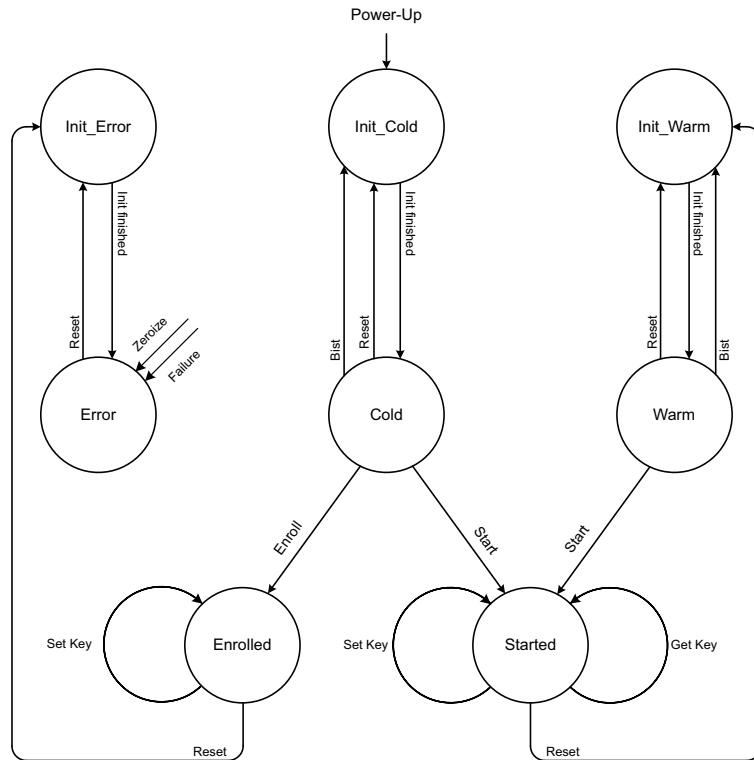

Fig 179. Possible flows, states, and actions
After power-up or reset the PUF controller starts in one of the three Init states, depending on its previous state. See Figure 179. It first initializes itself (indicated by BUSY = 1).
3. After the operation is finished the PUF de-asserts BUSY and asserts SUCCESS, signaling that the Start operation has completed successfully. When ERROR is asserted, instead of SUCCESS, the provided activation code does not match the device. In this case the PUF goes to the Error state. See Figure 179 and Section 48.10.7.13 "Error response".
3. After the operation is finished BUSY is de-asserted and SUCCESS is asserted. It indicates that the Get Key operation has completed successfully. If ERROR is asserted instead of SUCCESS, the provided key code does not match the device. In this case no key is provided and the PUF controller goes to the Error state. See Figure 179 and Section 48.10.7.13 “Error response”.